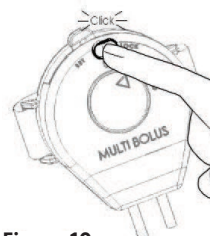

Figure 10
- To permanently lock the bolus volume prior to the patient being released; push the lock downward (See Figure 10).